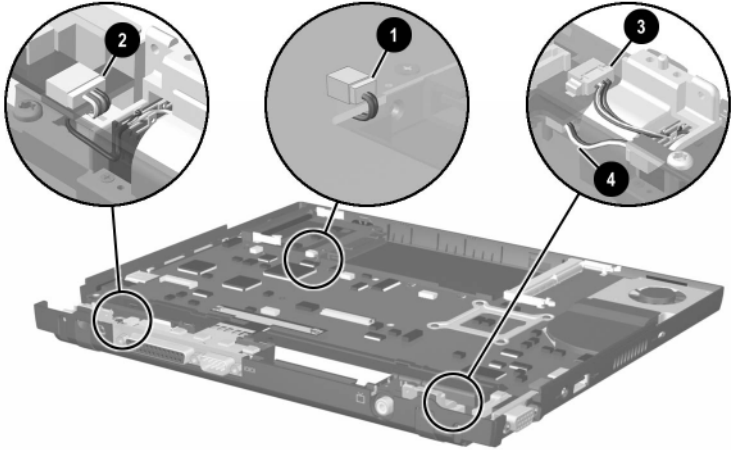

Figure 5-37. Routing the Speaker, External Battery Terminal and NTSC Module Cables
Make sure the speaker ❶, external battery terminal ❷ and ❸, and NTSC module cables ❹ do not get trapped underneath the system board when it is installed into the base enclosure (Figure 5-37).